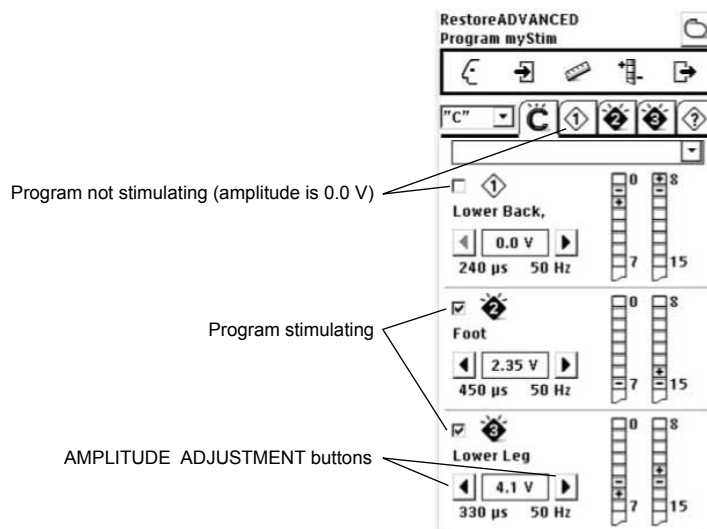

Figure 27. Adjusting amplitude on the PROGRAM mySTIM screen (group tab selected).
4. Use the AMPLITUDE ADJUSTMENT buttons to set the desired amplitudes for each program (Figure 27).